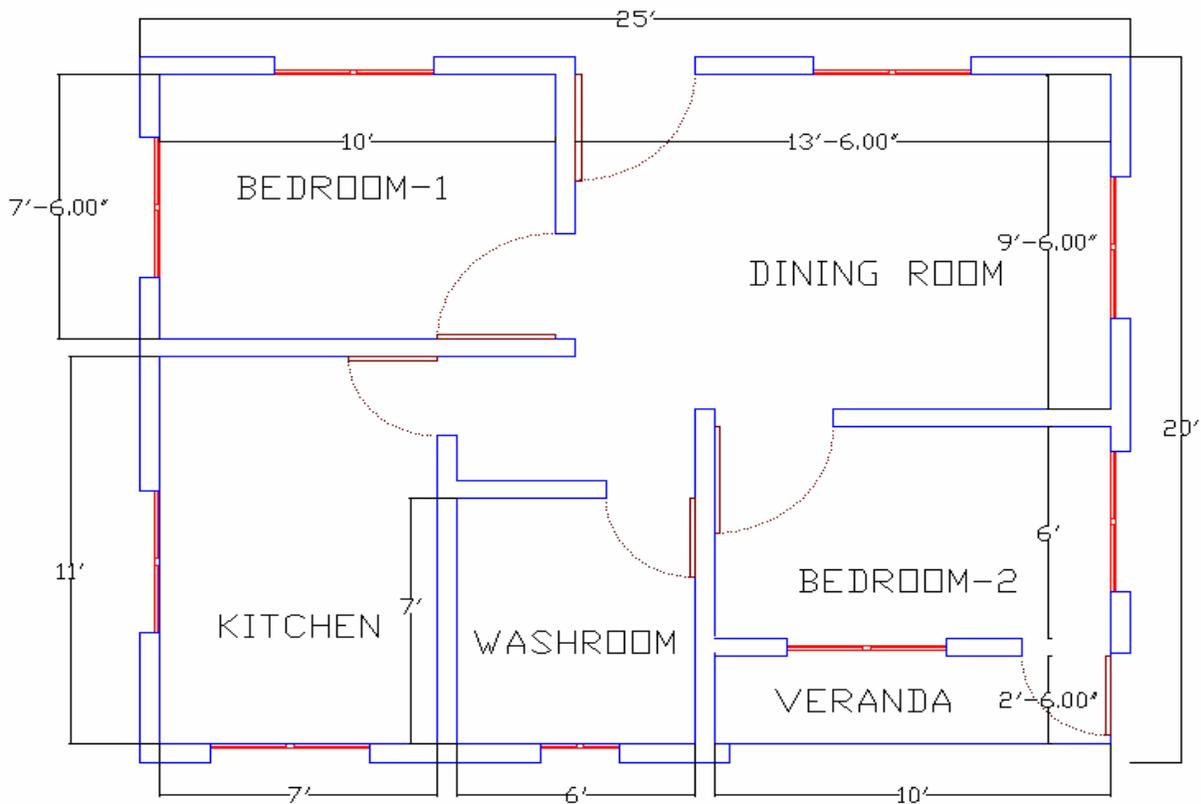

Fig. 6.5: 25'00"x20'00" flat
- Insert window1.dwg and make 8 copies. Put 2 windows in each of bedroom1, bedroom2, kitchen, and dining room as shown in Figure.6.5.